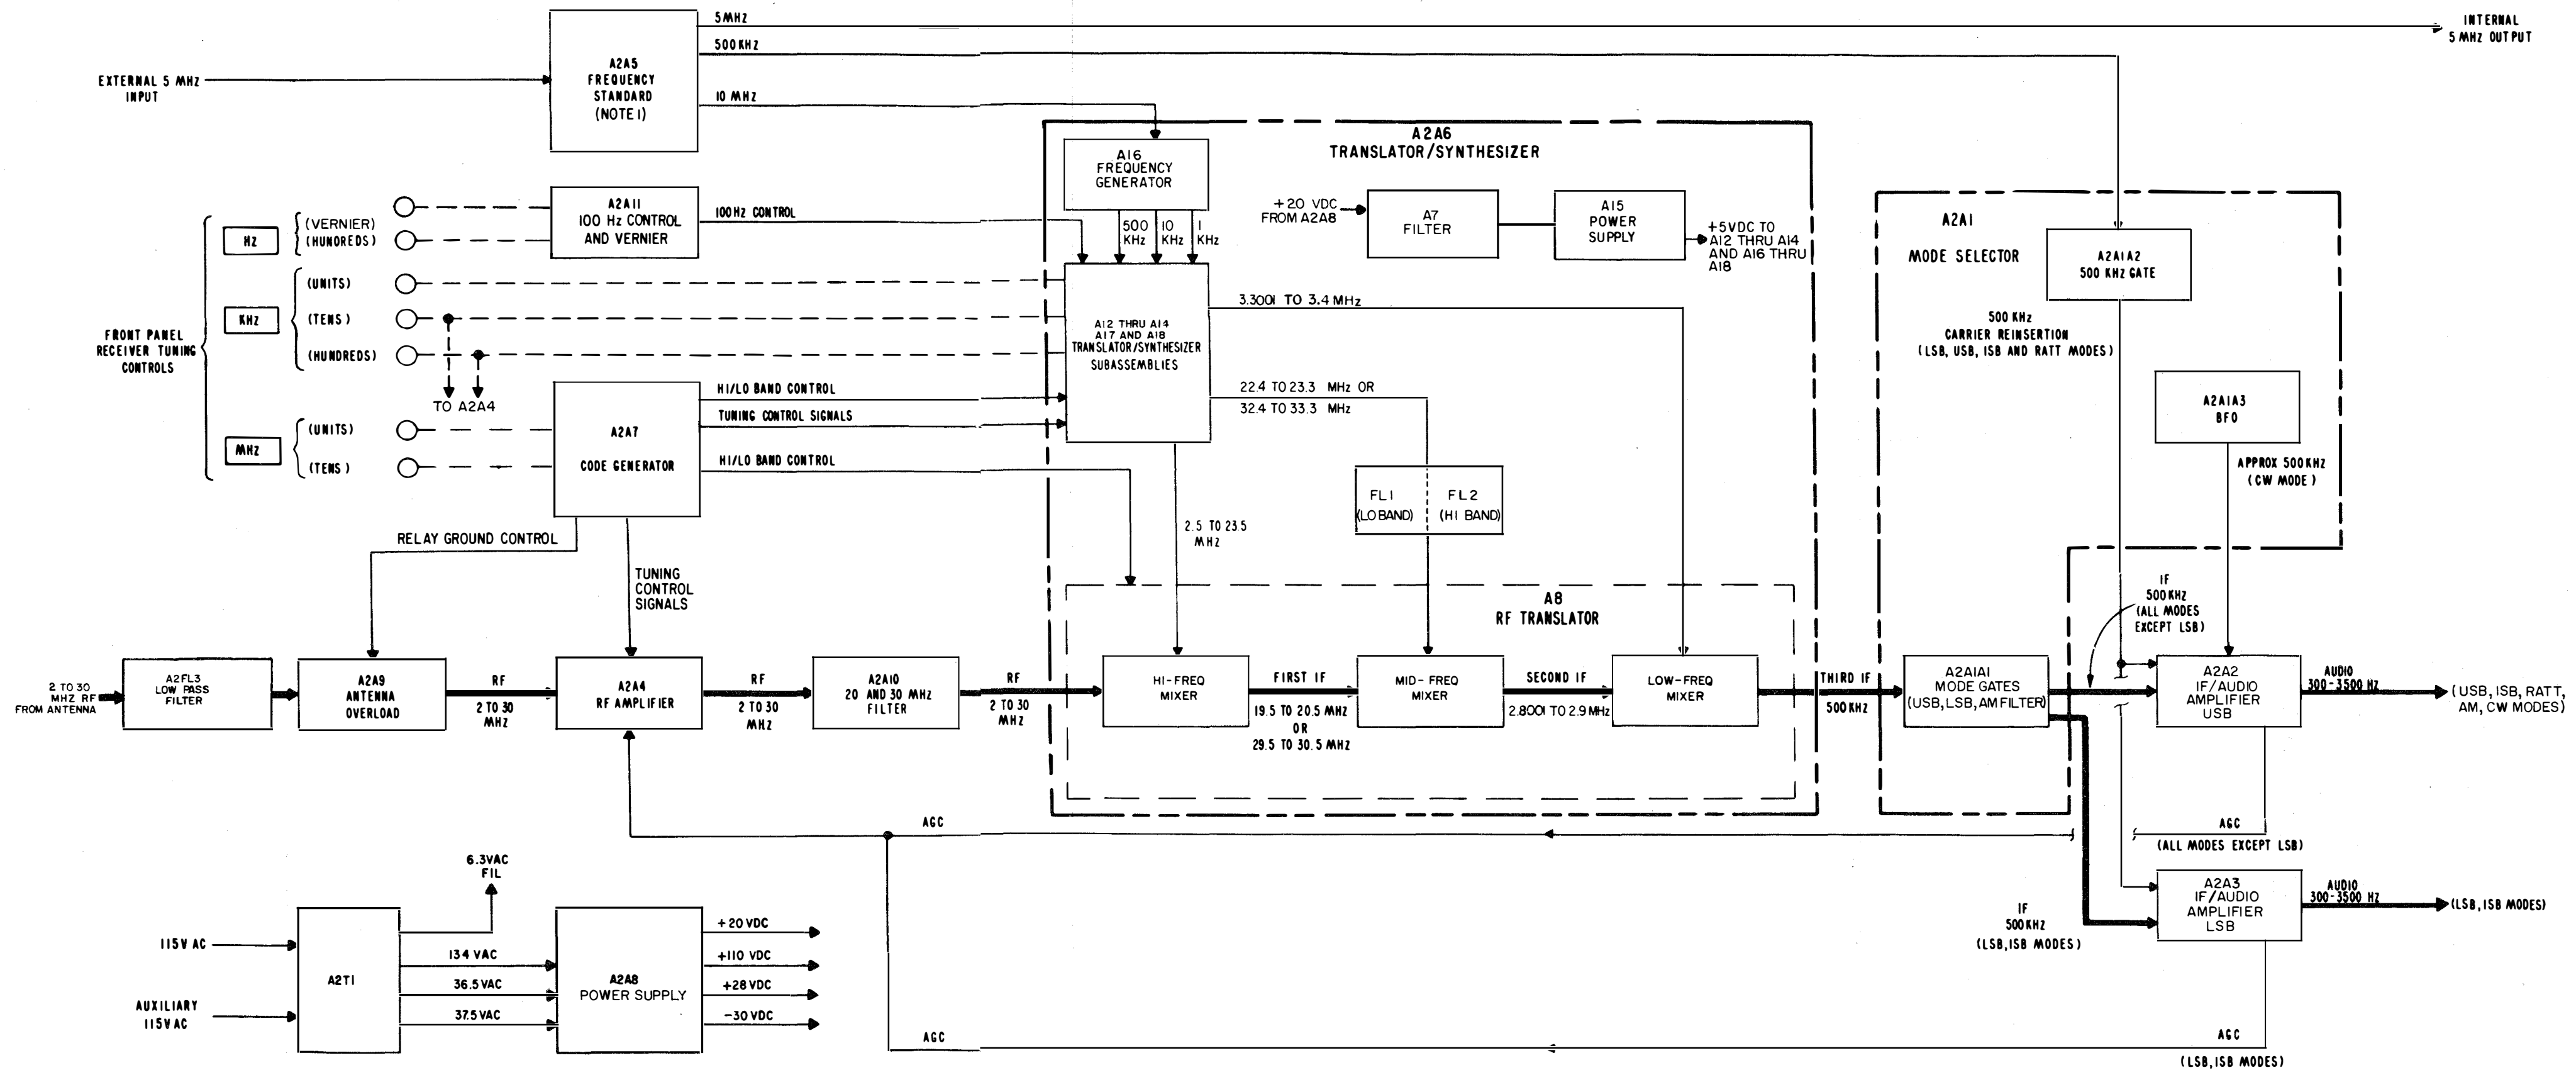

Figure 3-1. Radio Receiver R-1051G/URR, Overall Functional Block Diagram
3-4. GENERAL. The overall functional block diagram, figure 3-1, depicts the signal flow through Radio Receiver R-1051G/URR from antenna to audio output, and the relationship of the various assemblies to the signal path.
3-5. SIGNAL INPUT. (Figure 3-1). The rf input from the antenna first passes through Low Pass Filter A2FL3. This filter attenuates spurious signals generated in the receiver which might be conducted out through the antenna. The input then passes through Antenna Overload Assembly A2A9. The primary purpose of this assembly is to protect RF Amplifier Assembly A2A4 from any excessively high amplitude input signals received by the antenna. The antenna overload circuit also protects the rf amplifier whenever the receiver is tuning to new MHz bands, or deenergized.
3-6. RF AMPLIFIER A2A4 (Figure 3-1). The received signal is amplified in the rf amplifier to provide signals at the level required for proper operation of Translator/Synthesizer Assembly A2A6. Gain in the rf amplifier stages varies in response to manual or automatic gain control (agc) voltage feedback derived from the IF signal level in IF-Audio Assembly A2A2 or A2A3. In
3-8. MID-FREQUENCY MIXER ASSEMBLY (Figure 3-1). In the mid-frequency mixer the injection frequency from the 100 kHz Synthesizer Subassembly A2A6A17 is in either of two ranges: 22.4 MHz to 23.3 MHz for use with a 20 MHz first IF, or 32.4 MHz to 33.3 MHz for use with a 30 MHz first IF. Selection of the proper range for the second injection frequency is made in A2A6A17 in response to a hi-/lo-band control signal from the code generator. The resultant second IF signal is in the frequency range of 2.8001 to 2.9 MHz.
3-9. LOW-FREQUENCY MIXER ASSEMBLY (Figure 3-1). In the low frequency mixer the second IF is combined with an injection signal from the 10 kHz/1 kHz/100 Hz synthesizer, which consists of subassemblies A2A6A18 and A2A6A12. The injection signal is in the range of 3.3001 to 3.400 MHz. The resultant output is the third IF frequency of 500 kHz.
3-10. FREQUENCY SELECTION (Figure 3-1). Selection of the three specific injection frequencies required for the translation process is accomplished
3-11. MODE SELECTOR ASSEMBLY A2A1. The 500 kHz output of the Translator/Synthesizer A2A6 (see figure 3-1) is applied to Mode Selector Assembly A2A1. The operation of the receiver is identical in all modes. However, the main signal flow path varies according to the selected operating mode. The mode gate subassembly A2A1A1 responds to gating control voltages, and routes the IF signal through the appropriate LSB, USB, or AM filters to either or both of the IF/Audio Amplifier Assemblies A2A2 and A2A3. In the USB, RATT, AM, and CW modes A2A2 is used; in LSB mode A2A3 is used, and in the ISB mode both the IF/audio amplifiers A2A2 and A2A3 are used.
3-12. IF/AUDIO AMPLIFIER ASSEMBLIES A2A2 AND A2A3. Each IF/audio amplifier (see Figure 3-1) extracts the audio information from its incoming IF signal. This information is applied to a phone jack on the front panel (phone USB or phone LSB) and to an output connector at the rear of the receiver case. In USB, RATT, LSB, and ISB modes of operation, the intelligence is demodulated in a balanced product detector. Carrier reinsertion in these modes is provided by a 500 kHz signal obtained from Frequency Standard Assembly A2A5 via 500 kHz Gate Subassembly A2A1A2 of the Mode Selector Assembly. In the AM mode demodulation is accomplished by a diode (AM) detector. For CW signals an adjustable beat frequency oscillator (BFO) signal from BFO Subassembly A2A1A3 is applied to the AM detector.